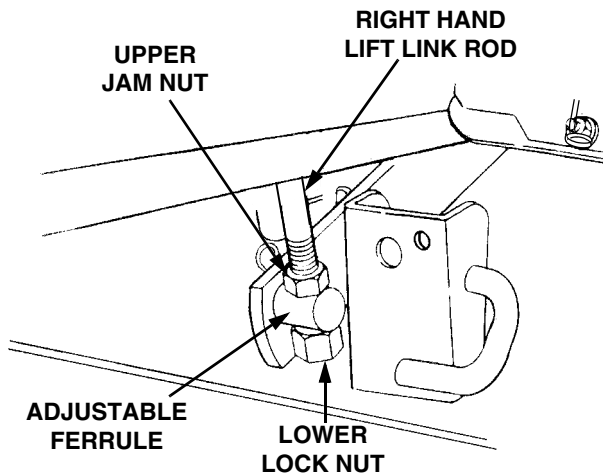

Figure 30
8. Side-to-side leveling is obtained utilizing the adjustment ferrule and right hand lift link rod (See Figure 30).
9. Loosen the upper jam nut on the lift link rod and turn away from the adjustment ferrule. Turn the lower lock nut upward (tighten) on the threads of the lift link rod to raise the right side of the mower deck. Turn the lock nut down (loosen) on the threads to lower the right side of the mower deck (Refer to Figure 30).